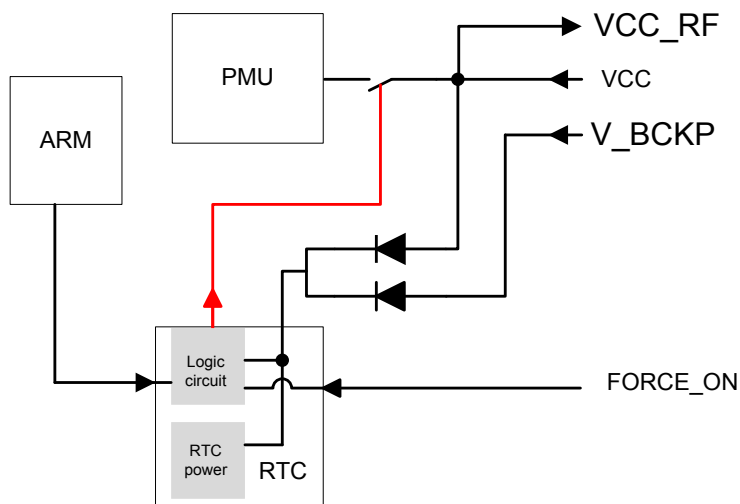

Figure 3: Internal Power Construction
- Send command: "\$PMTK225,4*2F" (the red line open the switch in Figure 3) to enter into backup mode forever. The only way to wake up the module is pulling the FORCE_ON high (the red line closes the switch in Figure 3).